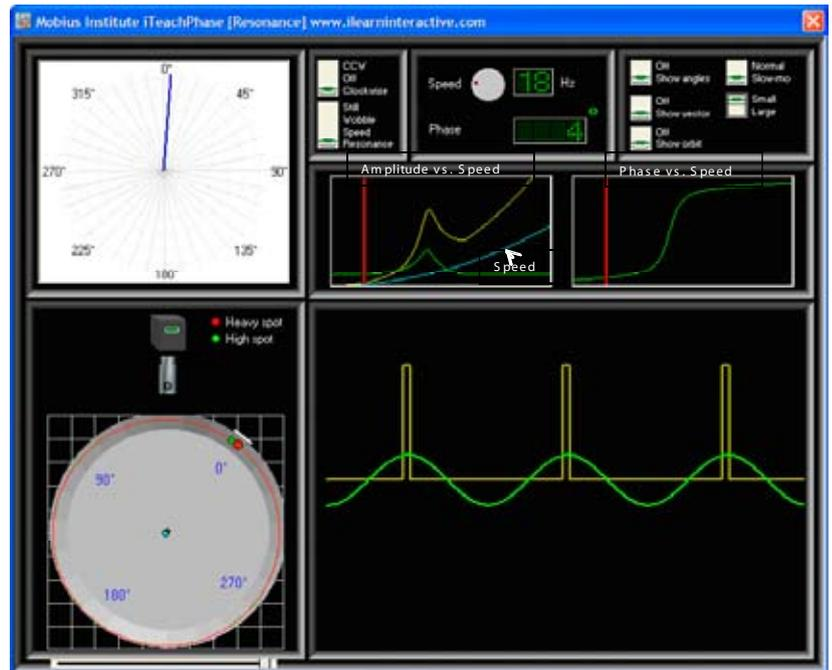

Figure 6 - Heavy Spot and High Spot in Phase when rotor is running well below resonance
Vibration increases with rotor speed. Actually, the force due to imbalance is proportional to the square of the rotor speed. The effect of unbalance on a rotating shaft depends on the relationship between rotor speed and the natural frequency of the shaft (shaft critical or resonance). Figures 6, 7, and 8 show the relationship between unbalance and shaft resonance at three different operating speeds: 1) well below shaft critical, 2) at shaft critical and 3) above shaft critical. For this example, the sensor and the tachometer are both located in the vertical position.
- At speeds much less than rotor critical, the rotor's heavy spot and the resulting rotor deflection (high spot) are virtually on top of one another. The system lag is close to 0°. As long as the operating speed is well below the rotor critical, the heavy spot and the high spot remain at near zero degree lag regardless of rotor speed. The relationship between the heavy spot and high spot at speeds well below critical is illustrated in Figure 6. The plus sign (+) indicates the rotor's mechanical center of rotation. The green dot near the center of the shaft is the rotor's center of mass. The red dot on the outer edge indicates the unbalance heavy spot and the green dot on the outer edge indicates the high spot. Notice that the red and green dots on the outer edge are almost on top of each other indicating a near zero phase lag.